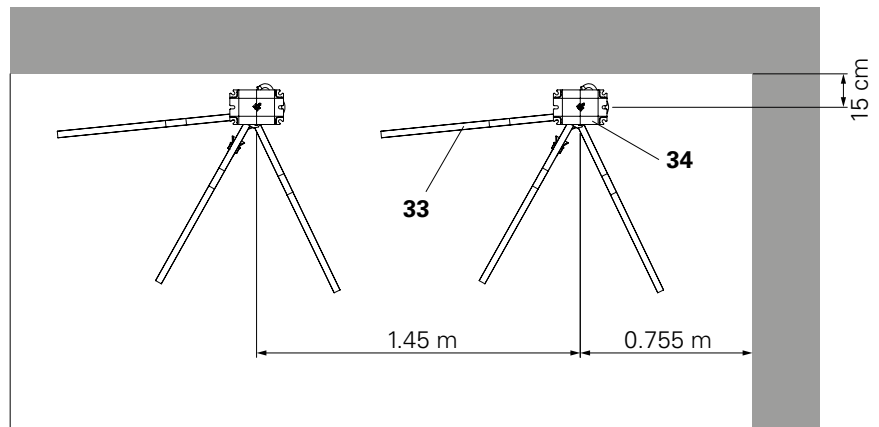

Fig. D6.08
- Set up the first slab prop with a 0.775 m gap to the front wall and the second slab prop at a distance of 1.45 m from the first. (Fig. D6.08).